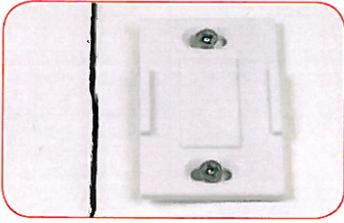

figure 1
1. Align the bottom plate parallel to the crack and fix with screws and rawlplugs (size 6) and adhesive (figure 1).